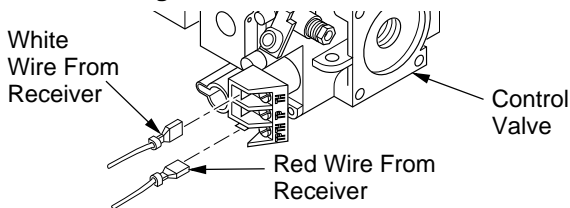

Figure 15 - Connecting Wires
3. Connect wires to control valve at the TPTH and TH locations as shown in Figure 15, page 11.